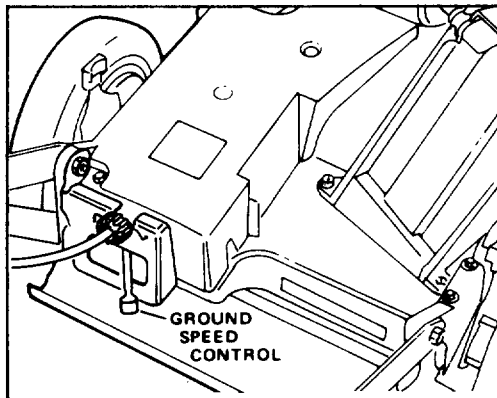

Figure 9
4. Move ground speed control to desired speed selection (Fig. 9).